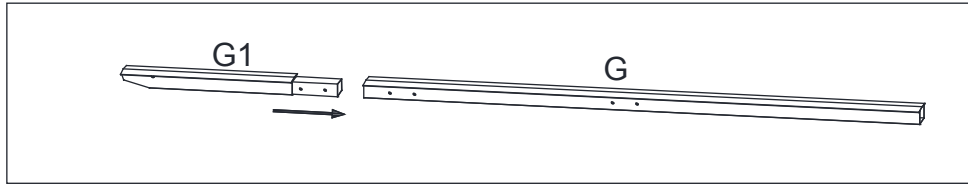

Fig 14
7.1. Connect the Long-Top Bar (G) to the Long-Top Connecting Tube (G1), as seen in Fig 14.